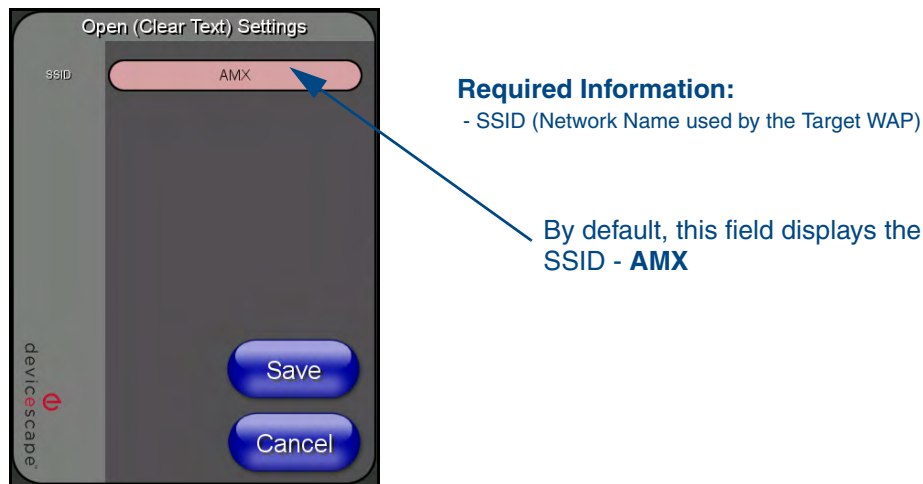

FIG. 19 Wireless Settings page - Open (Clear Text) security method
3. From within the Wireless Security section, press the **Open (Clear Text)** button to open the Open (Clear Text) Settings dialog (FIG. 19). An Open security method does not utilize any encryption methodology but does require that an SSID (alpha-numeric) be entered. Using this method causes network packets to be sent out as unencrypted text.
4. Press the red SSID field (FIG. 19) to display an on-screen *Network Name (SSID)* keyboard.
7. From the Open (Clear Text) Settings page (FIG. 19), press the **Save** button to incorporate your new information into the panel and begin the communication process.